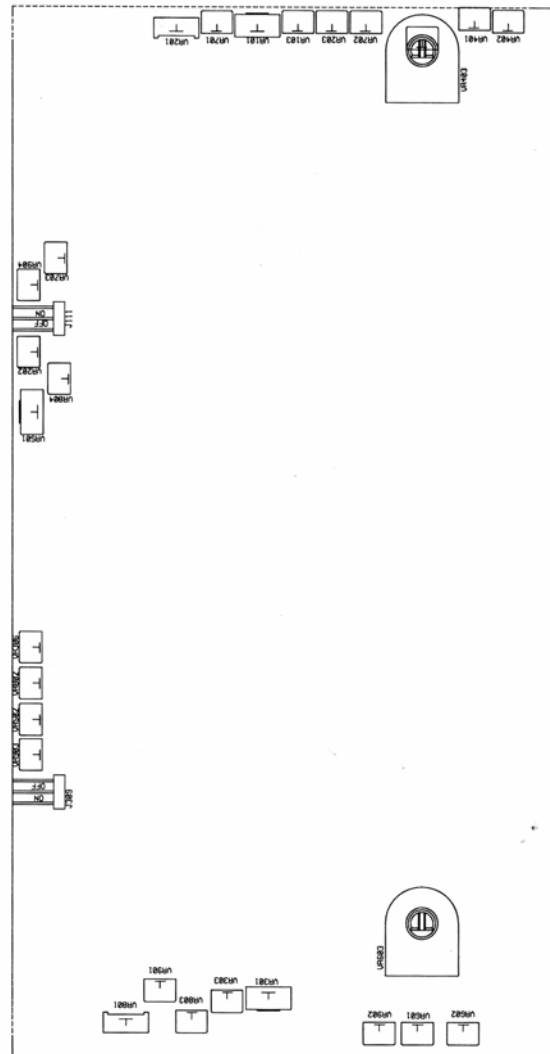

Fig. 6-1. Adjustment Location
- A. When select to dynamic load position, the max peak current is at 1.7 times rating current. The features are only applied for audio circuit of amplifier and audio production lines. Change the position of wafer J111 of CH1 and J309 of CH2 from "OFF" to "ON". Please refer to Fig.6-1 Adjustment Location.
If readjustment is required, use the following procedure. The location of the adjustments is shown in Fig. 6-1.